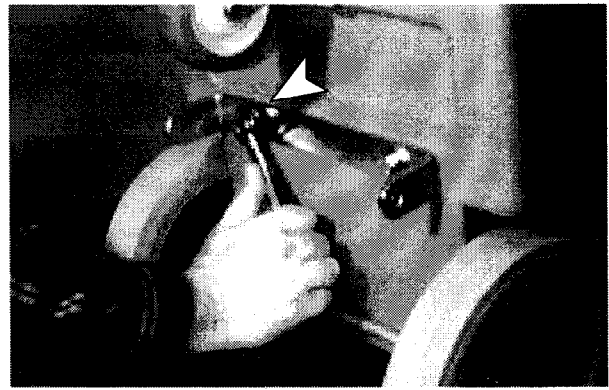

FIG. 1.
4. Remove (2) bolts and washers located at bottom of machine.
5. Install squeegee mounting bracket (*supplied with kit*). Re-install bolts and washers. (*Figure 1.*)